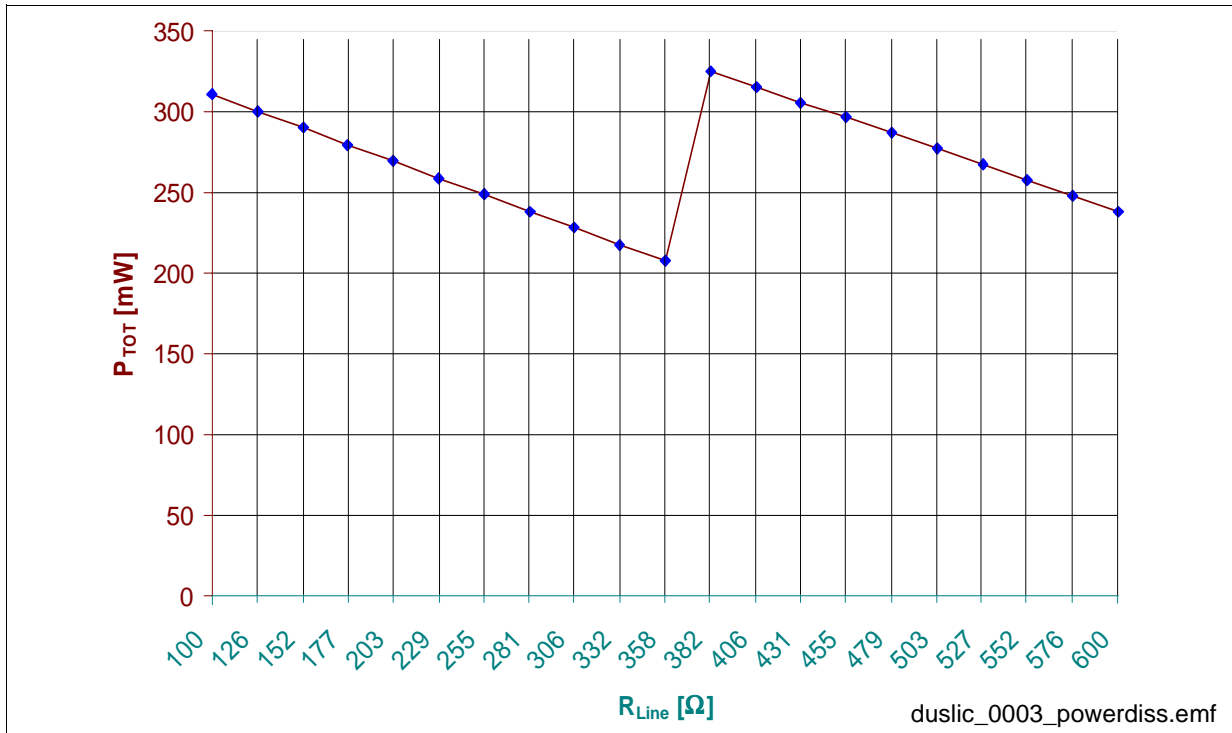

Figure 43 SLIC-P Power Dissipation (Switched Battery Voltage, Short Loops)
**Figure 43** shows the total power dissipation  $P_{TOT}$  of the SLIC-P in Active mode (ACTH and ACTL) with switched battery voltage ( $V_{BATH}$ ,  $V_{BATL}$ ) as a function of  $R_{Line}$ .
**Figure 43** shows the total power dissipation  $P_{TOT}$  of the SLIC-P in Active mode (ACTH and ACTL) with switched battery voltage ( $V_{BATH}$ ,  $V_{BATL}$ ) as a function of  $R_{Line}$  (Lowest Power Applications).